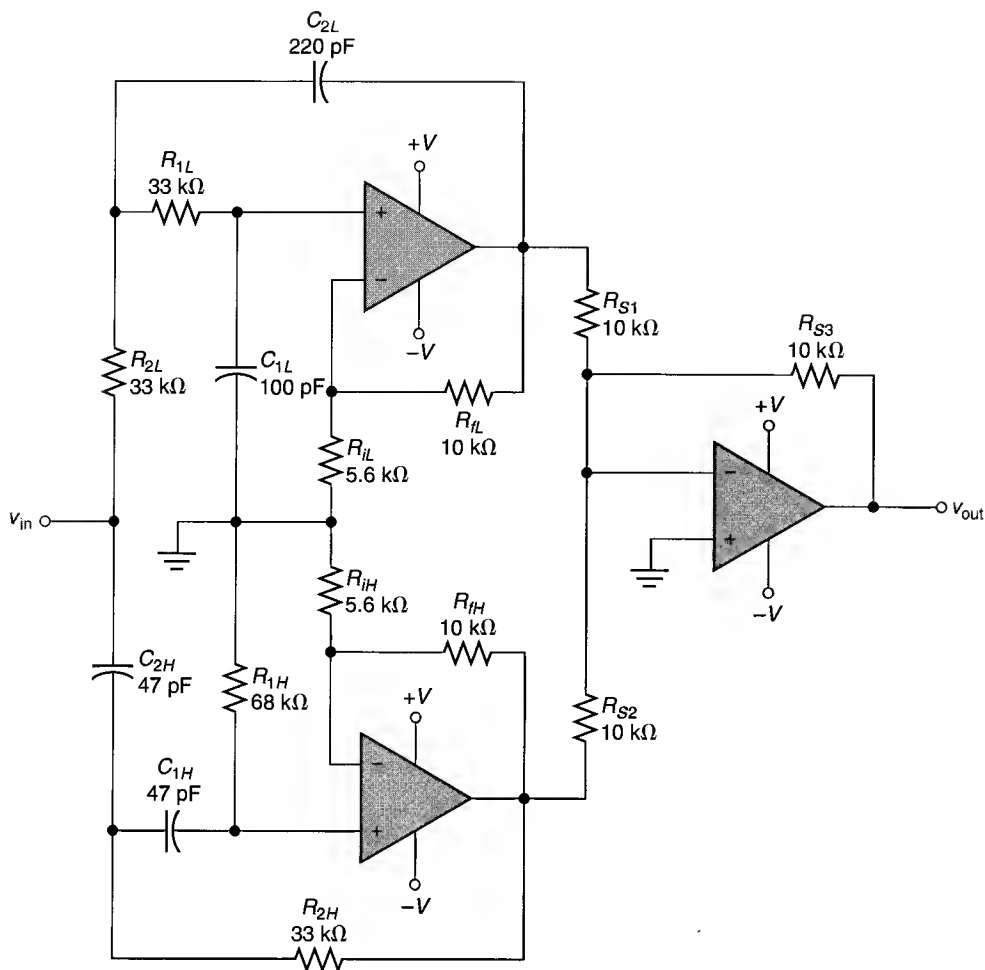

FIGURE 17.55
24. Calculate the values of f_{C1} , f_{C2} , bandwidth, geometric center frequency, and Q for the notch filter in Figure 17.55.